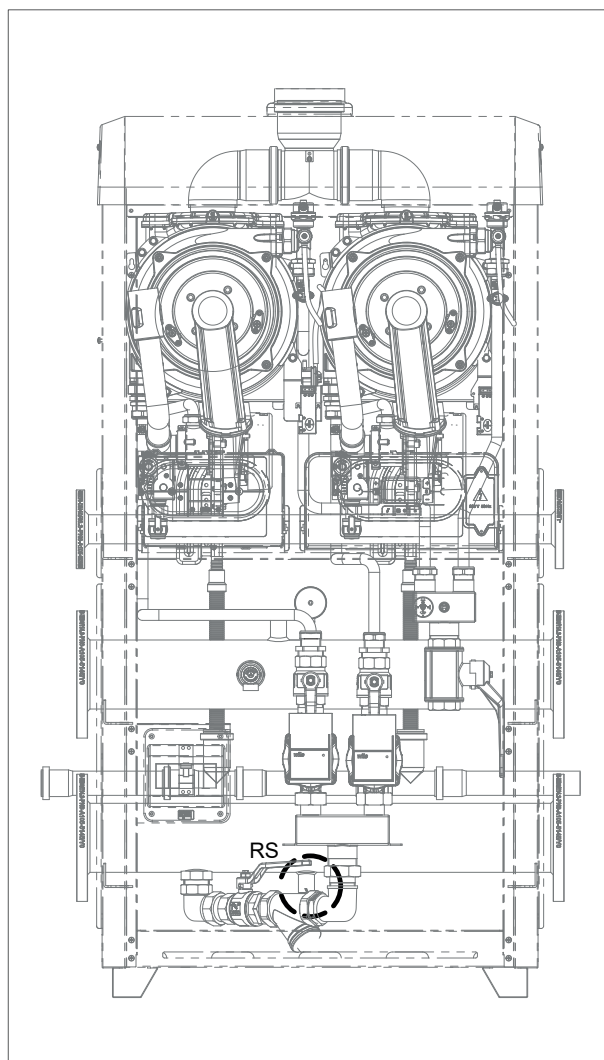

fig. 1
- › if only the boiler needs to be drained, close the flow/return isolating valves on the heating circuit and open the drain valve located at the bottom of the boiler on the pump manifold (see fig. 1);